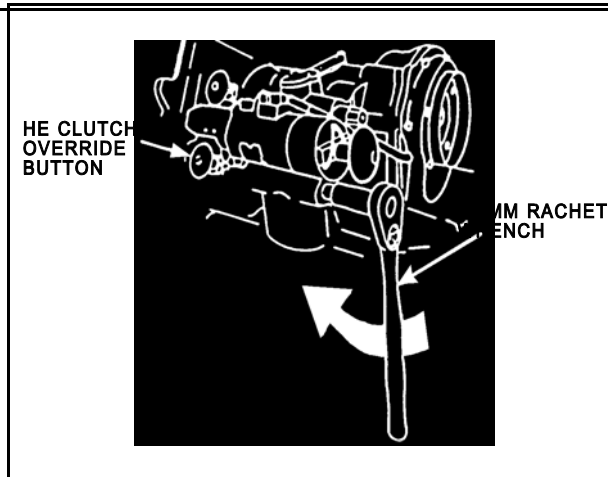

Figure 5. Lower clutch override knob.
- d. Use the 14-mm ratchet wrench on the lower feed shaft extension and turn the shaft right until the lower clutch override knob goes in the second time (Figure 5, page 3-114).